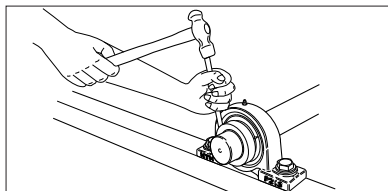

Fig.8.11
- 6) Fit a rod in the hole on the circumference of the eccentric collar and tap it with a hammer so the collar turns in the shaft rotating direction, as shown in Fig.8.11.